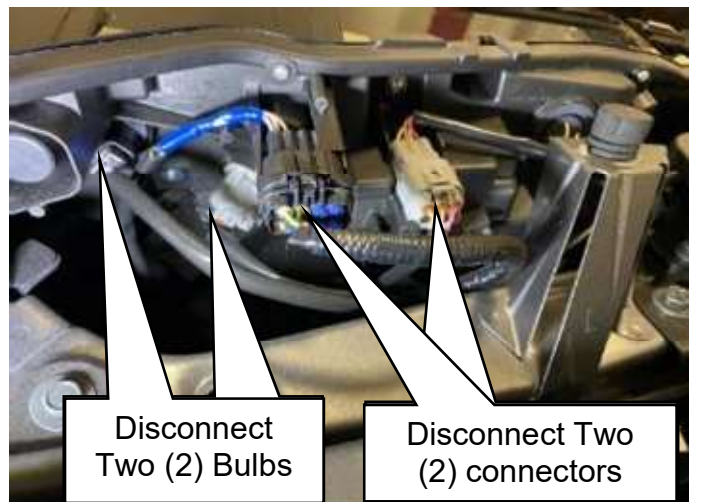

Figure 11
11. Disconnect the two electrical harness connectors and two bulb connectors behind the combination lamp. (Figure 11)